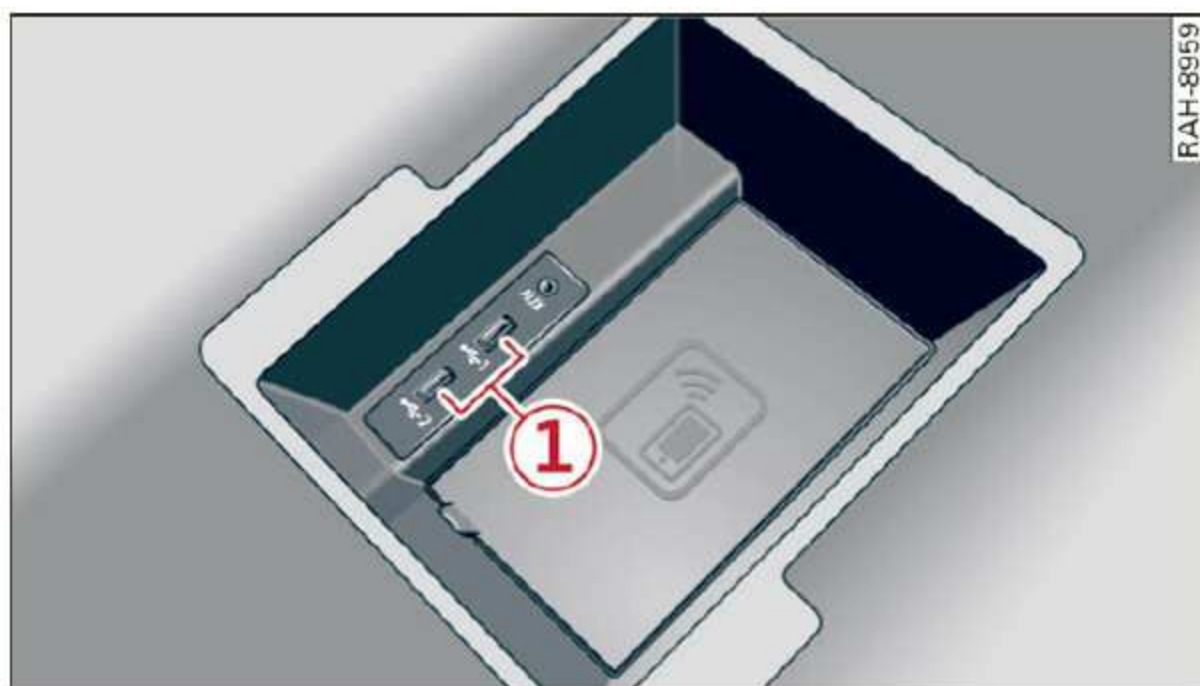

Fig. 110 Storage compartment in the center armrest: Audi phone box with connections
- **Connecting to the external vehicle antenna:** lay the cell phone on the center of the cell phone symbol in the Audi phone box with the display facing up. Make sure there are no objects between the Audi phone box and the mobile device ⇒ *fig. 110*.
- **Charging a cell phone wirelessly:** place a Qi-capable ¹⁾ cell phone centered on the symbol in the Audi phone box with the display facing up ⇒ *fig. 110*. The cell phone will charge.
- **Charging a cell phone using the USB adapter:** connect your cell phone to the Audi music interface using a USB adapter cable ① ⇒ *fig. 110*.